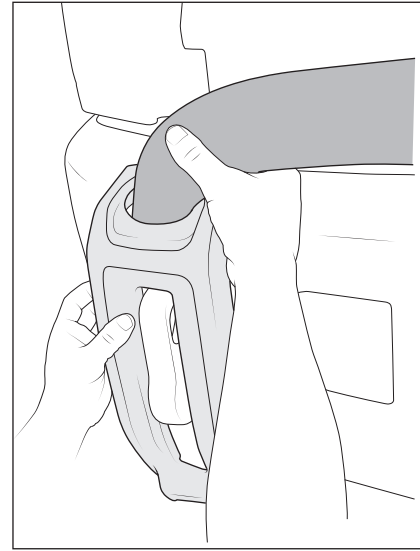

Figure 18
2. Slide the second bezel onto the end of the tube, then position together in place on the bumper (fig 18).